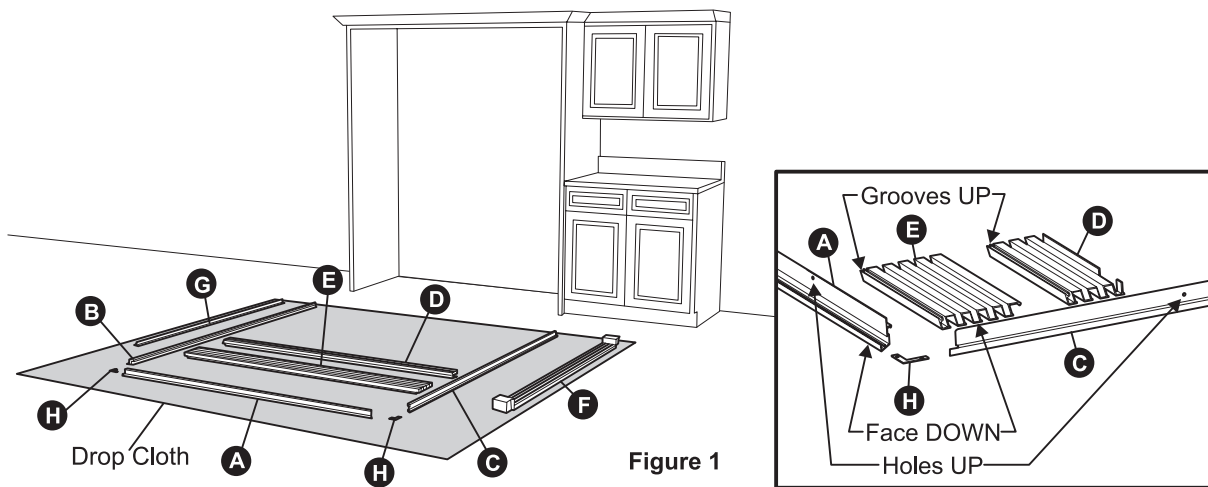

Figure 1
1. Lay the parts out on a cleared area face down. See Figure 1.